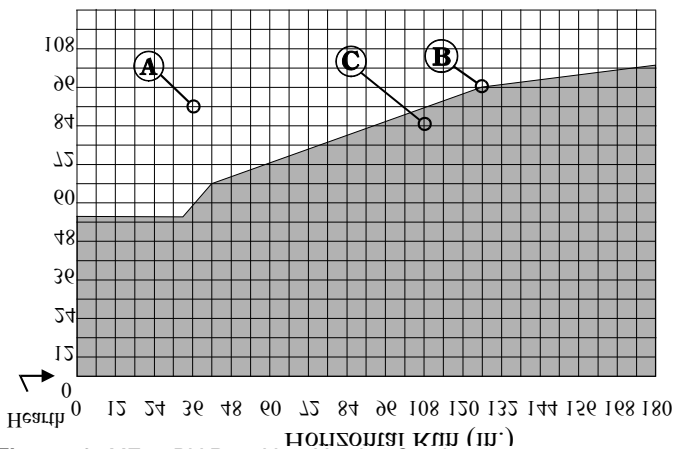

Figure 19. ME34-DV Rear Vent Venting Graph
- your vent run must fall within the limits set by Figure 19
Measure the vertical height from the fireplace hearth to the centre of the termination and the horizontal run from the fireplace flue collar to the wall flange of the termination. Plot on the Venting Graph (Fig. 19) with an 'X'.
Venting runs *must* fall within the limits set by the venting graph (see Figure 19).